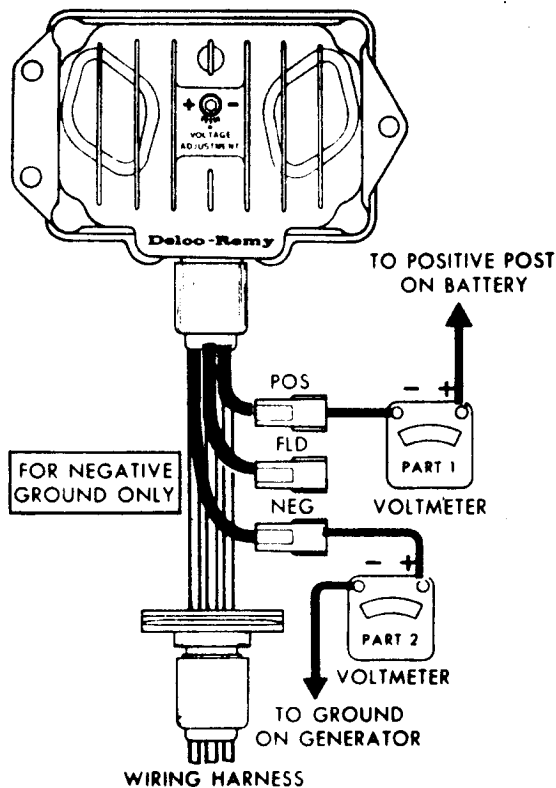

Figure 7 —Voltmeter connections to test adapter for negative ground circuits only.
1. For negative ground systems, connect a voltmeter as shown in Part 1 and Part 2 in Figure 7 .